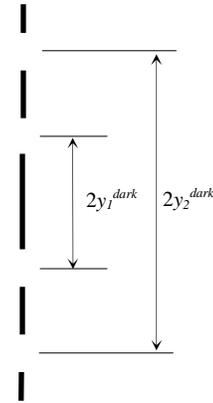

Figure 13b
4. Observe the diffraction pattern on the screen. You should see something like shown in Figure 13b. [The black “bars” in the figure represent the bright bands while the gaps represent the dark bands.]